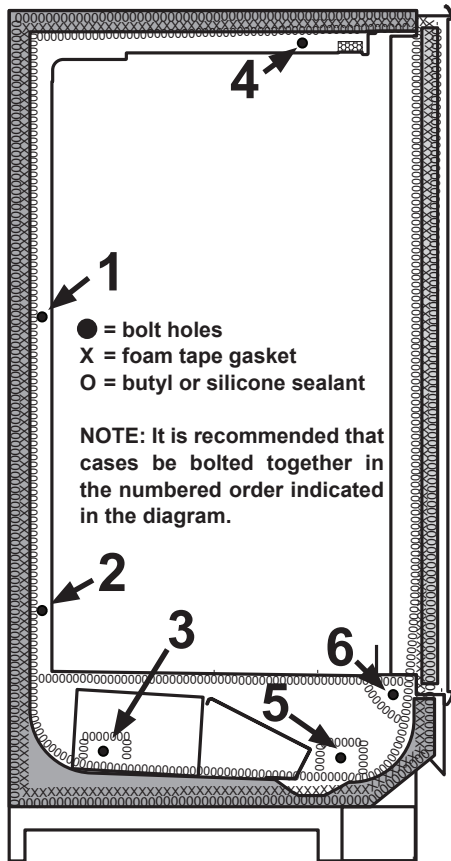

Fig. 3 Bolt holes, foam tape gasket and sealant
3. Follow the single-case installation instructions for the first case, then position the next case in the line-up approximately 3’ away. Apply the foam tape gasket (supplied) and beads of butyl or silicone sealant to one of the adjoining case ends (Fig. 3). Remove the caster assemblies.
6. Push the cases tightly together, then lightly bolt them together through the holes that are provided (Fig. 3). Tighten all the joining bolts until all margins are equal. Be careful not to over tighten.